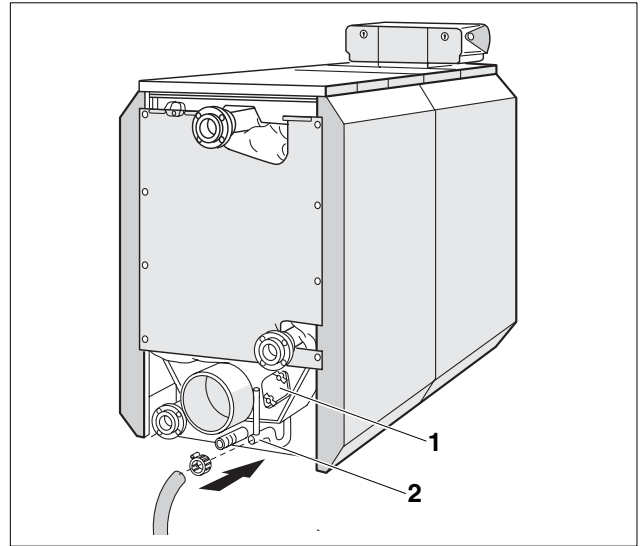

Fig. 24 Installation of neutralization system
- Secure a hose to the condensate drain with a clamp (Fig. 24, **Item. 2**).
Check to make sure the condensate drain does not get plugged (Fig. 24, page 22).
- Check and possibly clean the flue collector and condensate drain through the rear clean-out opening (Fig. 24, page 22).
6	Remove condensate drain hose from neutralization system (Fig. 24, page 22)
9	Flush condensate drain connection at boiler (Fig. 24, page 22)